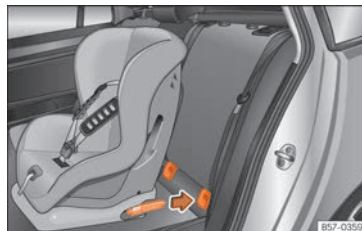

Fig. 30 Rear seats: fitting a child seat with the ISOFIX system.
- Press the child seat onto the "ISOFIX" retaining rings until the child seat can be heard to engage securely »» Fig. 30. If the child seat is equipped with Top Tether* anchor points, secure it to the correspondent ring »» page 35. Observe the manufacturer's instructions.